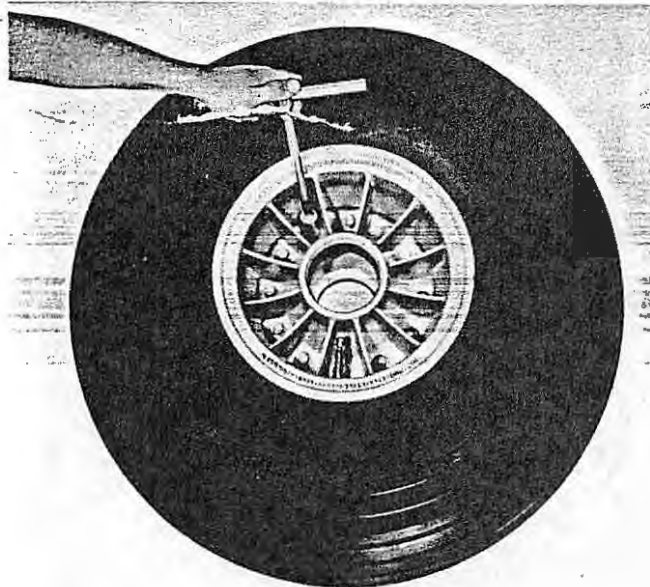

Figure 2-56. Removing Retaining Nuts
- m. Remove the twelve bolts and nuts and pull out both halves of the wheel (figure 2-56).